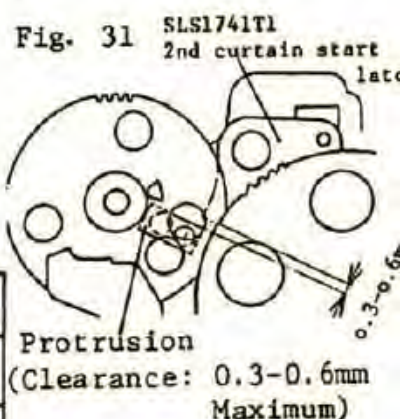

Fig. 31 SLS1741T1 2nd curtain start latch
- b. Check clearance between the SLS1741T1 2nd curtain start latch and the protrusion of SLS1731T1 S.gear No.1 by looking through hole of SLS1735T1 S.gear No.2 as shown in Fig. 31.